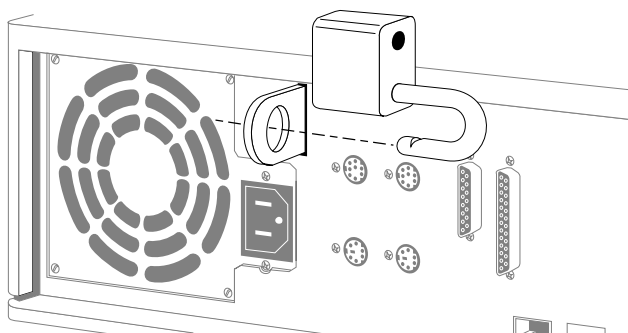

Figure 2-42 Locking the Indigo² IMPACT Workstation
3. Attach a lock through the hole in the lockbar in the back of the workstation to lock it, as shown in Figure 2-42.